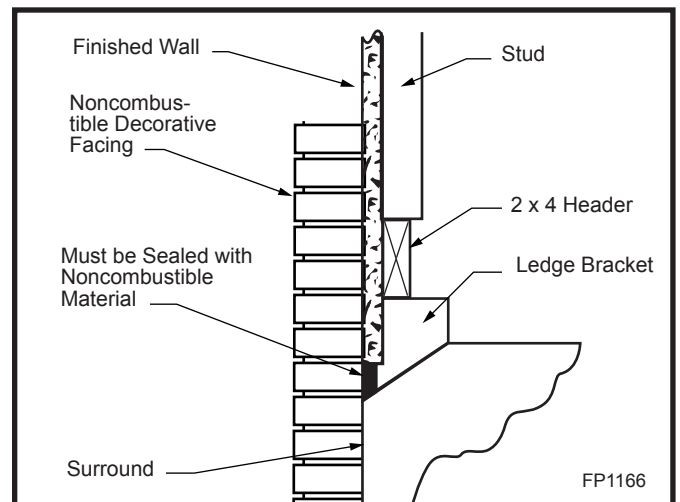

Fig. 26 Fireplace surround flush with finished wall.
**WARNING: HEARTH EXTENSION MUST BE INSTALLED IN ACCORDANCE WITH FIGURE 26.**